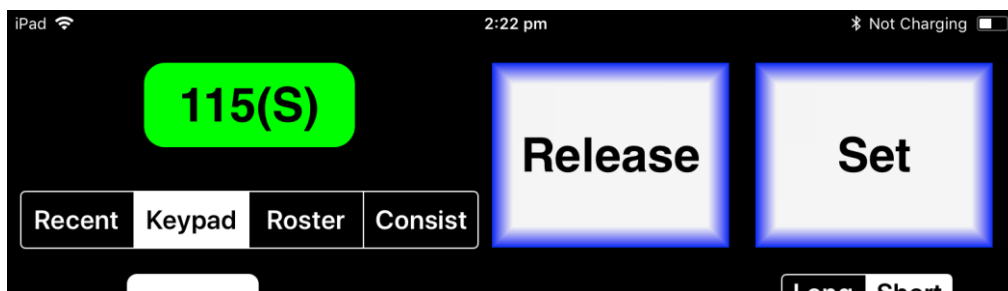

Figure 9 The loco is successfully selected
(11) The red button at the top left should turn green to show the loco is selected as Figure 9.